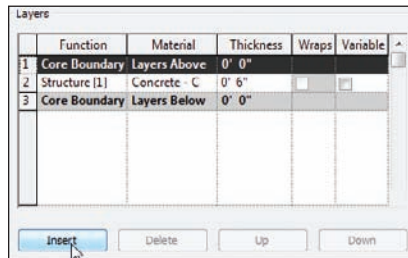
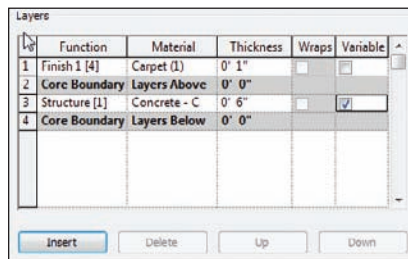

FIGURE 6.37 Adding a new layer
FIGURE 6.38 Adding the new material
11. In the Edit Assembly dialog, select the 1 button to the left of the Core Boundary above the Structure layer, as shown in Figure 6.37.
12. Click the Insert button (see Figure 6.37).
16. Find the material in the menu called Carpet (1) and click OK.
18. Click the Variable checkbox in the Structure row, as shown in Figure 6.38.